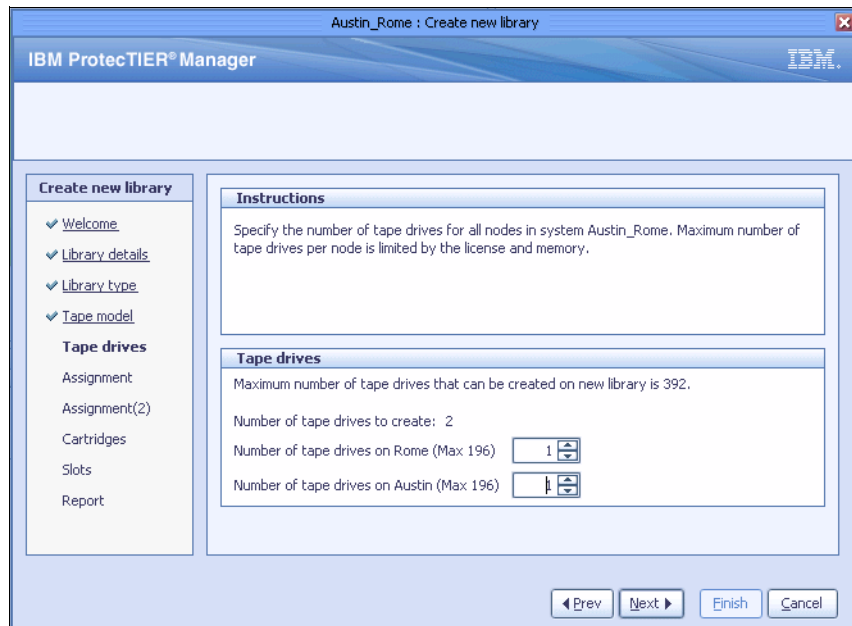

Figure 6-32 Tape drives menu
- After confirming the default tape drive model, specify the number of virtual tape drives within the VTL on each node of the ProtecTIER two-node cluster. We define one tape drive on node1 and one on node2 (Figure 6-32).